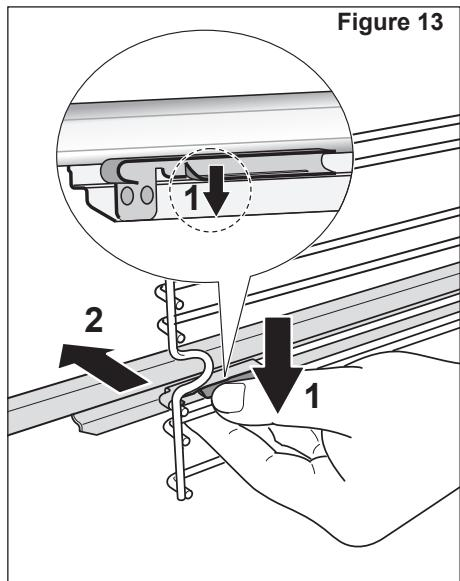

Figure 13
- Find the safety locks. These are the tabs that clip over the wire of the side rack (arrow 1 in fig. 13).
- Pull the safety locks away from the wire to release the wire (arrow 2 in fig. 13).